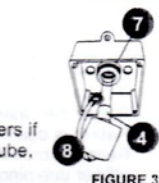
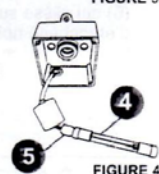

FIGURE 3
FIGURE 4
3. Remove the black lamp boot (8) by sliding it over the cable away from the quartz seal compression nut (7), Figure 3.
4. Slowly remove the UV lamp (4) out of the quartz tube.
5. Remove lamp socket (5) from the UV lamp (4), Figure 4.
6. Remove the quartz seal compression nut (7) by turning it **counterclockwise**, Figure 3. Use a pair of channel-lock pliers if needed, Figure 5. You will notice that there is a stainless steel compression washer (6) which slides over the quartz tube, save the washer (6) for later use, Figure 6. There is also a black seal ring (13), grasp the black seal ring; slowly and carefully remove the quartz tube.
7. Now you are ready to clean or replace the quartz tube (2). For the cleaning quartz tube (2), follow steps 8 and 9 then proceed from step 10. For replacing quartz tube (2), skip steps 8 and 9 and proceed from step 10.
17. Slide the new UV lamp (4) back inside the quartz tube, Figure 3.
18. Reinstall the black lamp boot (8) back over the quartz seal compression nut (7).
19. Reinstall the enclosure cover (10) with gasket (9) and secure with the screws.